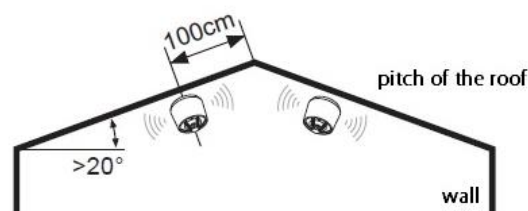

Figure 1: Mounting the radio heat detector on the roof slope
- *Cellar and attic space:* With the attic space a distance should be kept to the roof point of at least 100cm (see Figure 1).